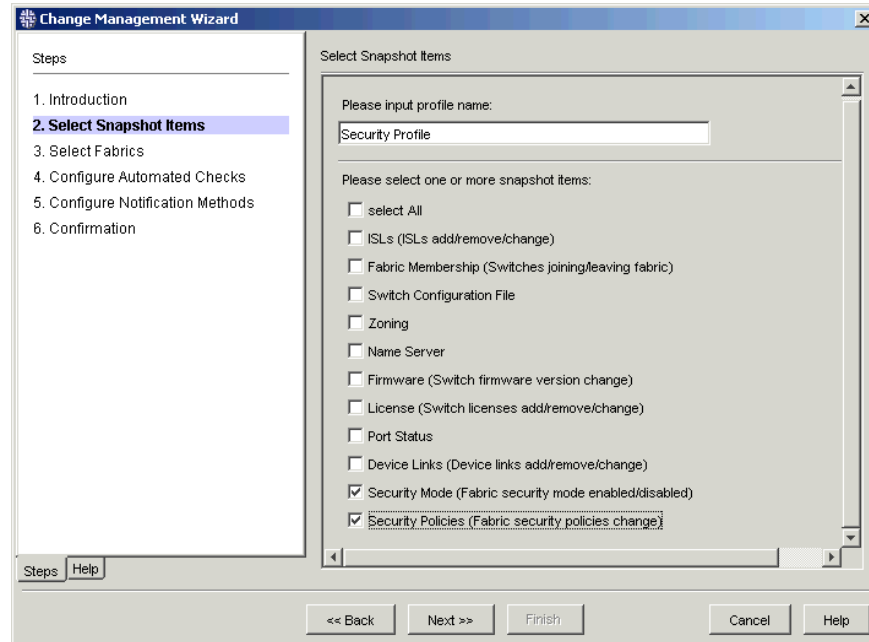

Figure 11: Change Management Snapshot Items
4. Enter a profile name and click the check boxes next to the parameters you want to monitor for changes, as displayed in Figure 11.